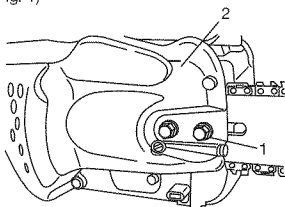

Fig. 1
1. Remove chain bar clamp nuts (1).
2. Remove the side case (2) as pinching the rear part of the side case (2) .(Fig. 1)
Then fix the clamp nuts temporarily. (Fig. 1)